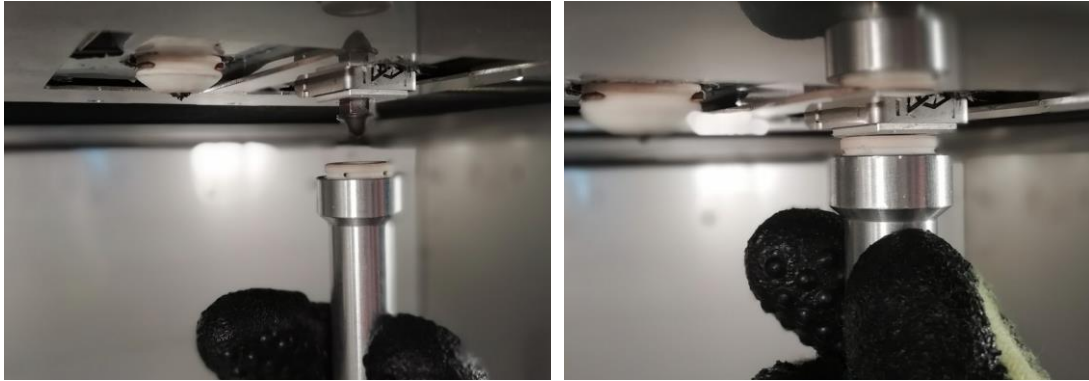

Fig. 93 Installing the cover
18. Replace the cover fixed in the tool onto the hotend tip (Fig. 93).